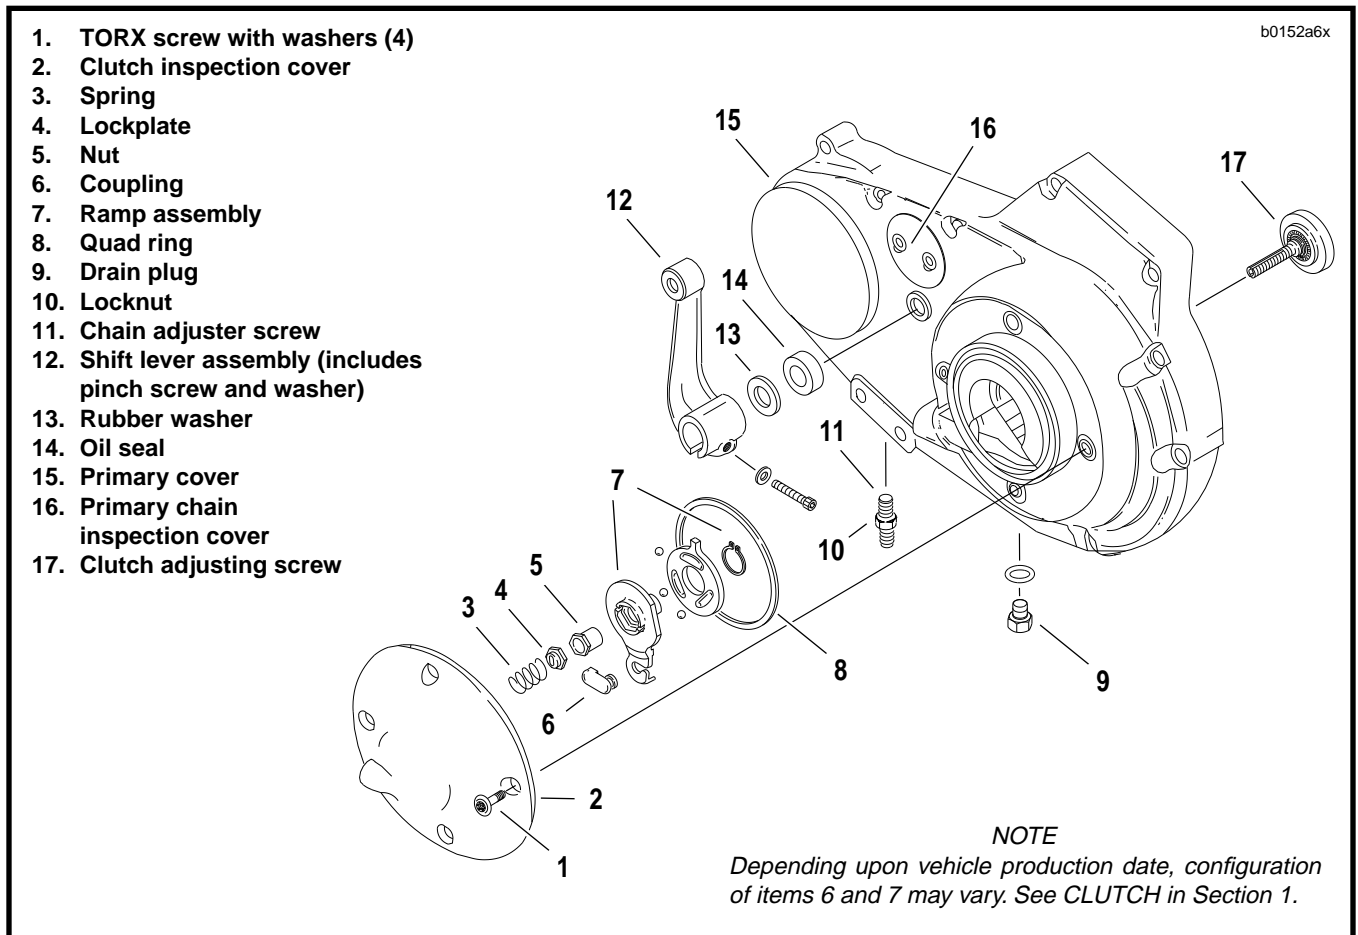
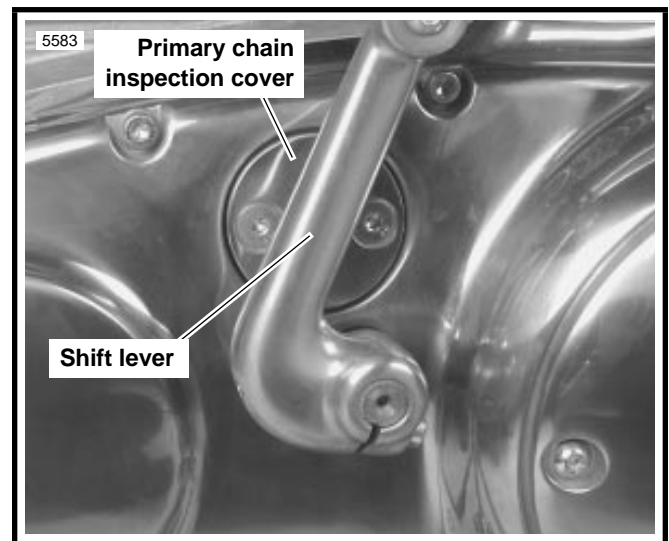

Figure 6-1. Primary cover
Figure 6-5. Shift Lever
3. See Figure 6-1. Place a drain pan under the engine. Remove drain plug (9) and drain lubricant from primary drive.
4. Remove shift lever assembly (12) and rubber washer (13). Do not to scratch primary cover (15).
4. See Figure 6-1. Install **new** shift lever oil seal (14).
5. Fit coupling (6) over clutch cable end. Place hook of ramp (7) around coupling button and rotate assembly counterclockwise until tang on inner ramp fits in slot of primary cover.
6. Thread nut (5) on adjusting screw (17) until slot of screw is accessible with a screwdriver. Fit nut hex into recess of outer ramp and turn adjusting screw counterclockwise.
10. Install rubber washer (13) and shift lever assembly (12). Shift lever must bisect primary chain inspection cover. See Figure 6-5. Tighten pinch screw to 100-120 **in-lbs** (11.3-13.6 Nm).